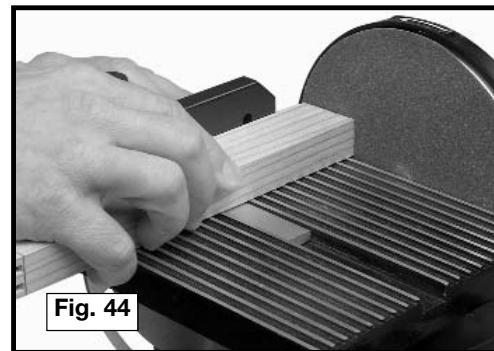

Fig. 44
When sanding the ends of narrow workpieces, use the sanding disc and the miter gauge (Fig. 44). Move the work from the center to the left side of the sanding disc.
**⚠ WARNING:** Always sand on the left (downward) side of the sanding disc (Fig. 44). Sanding on the right (upward) side of the sanding disc could cause the workpiece to fly up suddenly which could be hazardous.